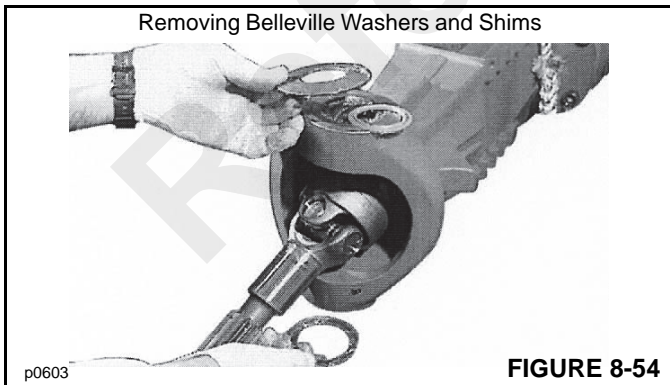

FIGURE 8-54
17. Remove the Belleville washers and shim from the upper and lower side of the axle beam (Figure 8-54).